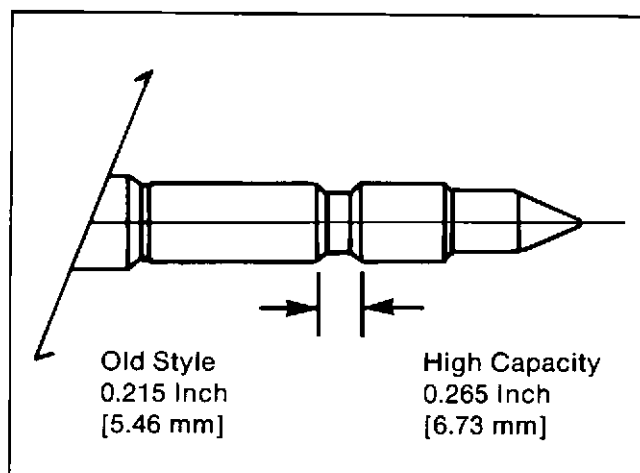

Fig. 2-15, (F60297). Injector plunger fuel drain groove width
9. The high capacity plunger assembly can be identified by a wider fuel drain groove in the plunger. The old style groove was 0.215 inch [5.46 mm] wide. The high capacity plunger groove now in use is 0.265 inch [6.73 mm] wide, Fig. 2-15.